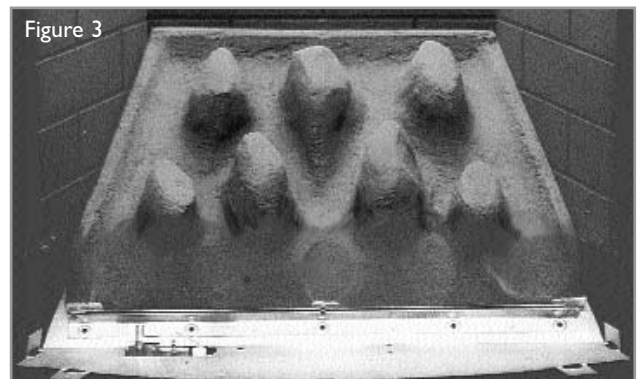
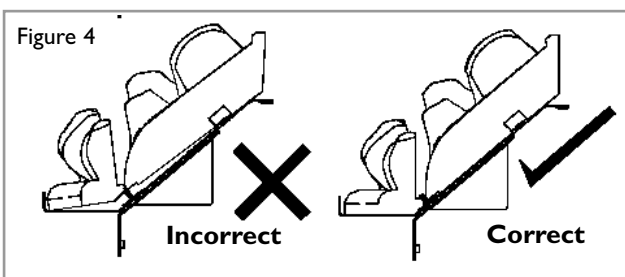

Figure 3
Figure 4
1. Position the combustion matrix onto the burner tray as shown in figure 3. The front edge of the matrix should sit snugly behind the back edge of the burner rails as shown in figure 4. Do not fit the matrix on top of the burner rails.